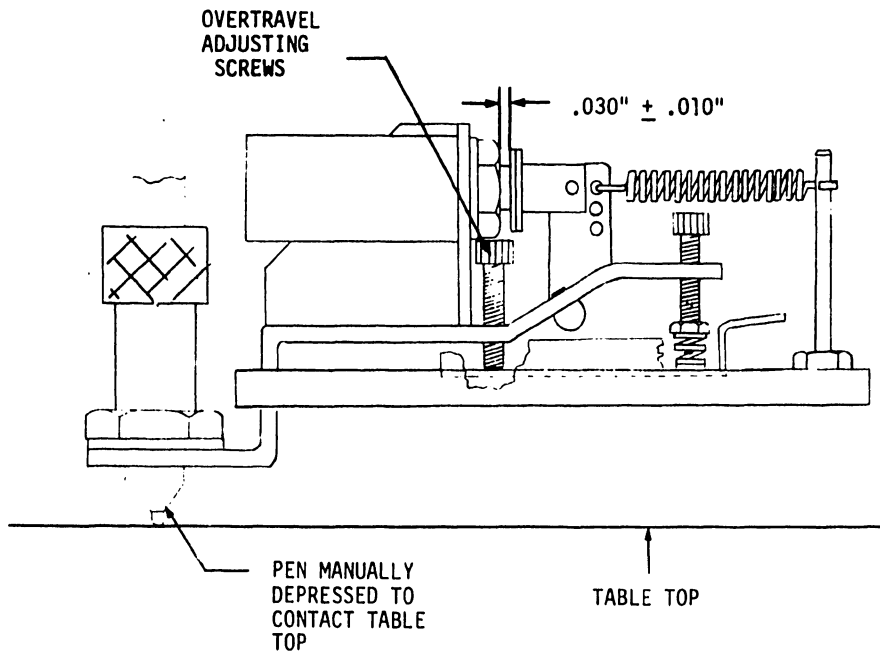

FIGURE 12
- 2) With the pen manually depressed to just contact the table top there should be a .030"  $\pm$  .010" gap. See Figure 12.